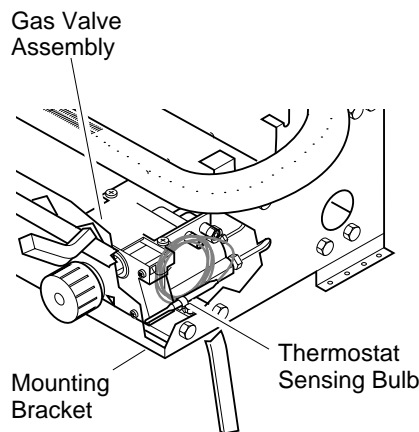

Figure 39 - Location of Gas Valve Assembly and Thermostat Sensing Bulb
1. Remove logs. Locate the gas valve assembly and thermostat sensing bulb (see Figure 39).